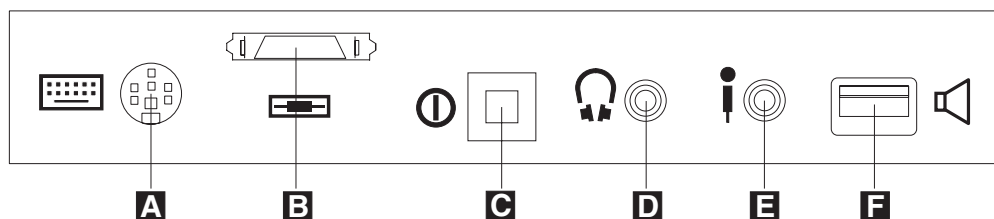

Figure 18. Front connector panel description for a Model 561
2. Connect the cables for the keyboard/mouse (A "Y" cable is needed to connect a mouse), diskette drive, microphone, headphone, and speaker kit as shown in Figure 18 on page 36.